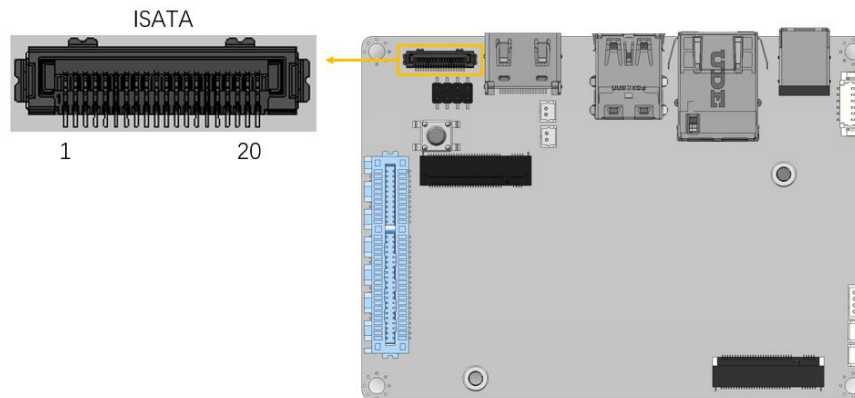

Figure 3-13: iSATA Connector Location
- CN Location:** See **Figure 3-13**